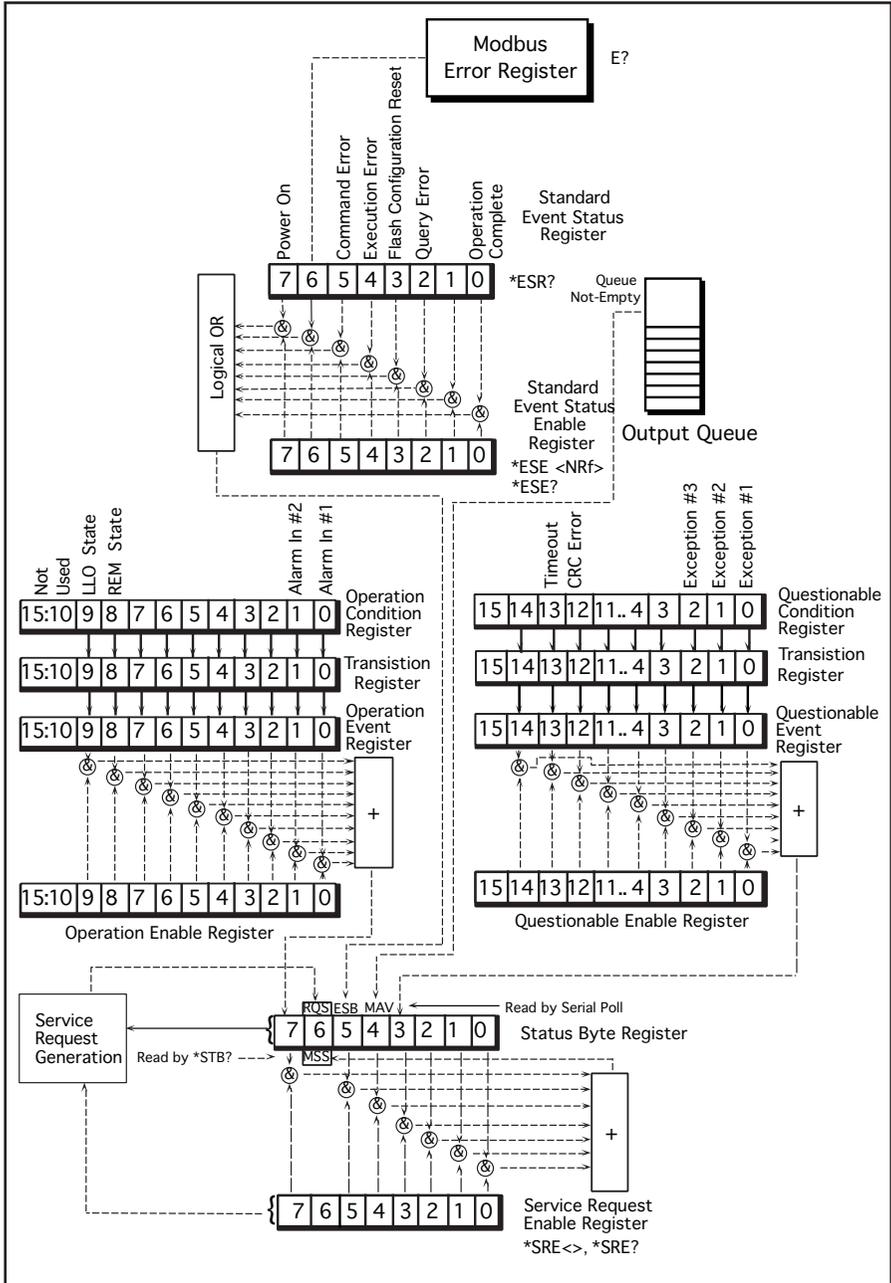

Figure 3-1 Status Reporting Structure
The 9099 has multiple copies of the expanded IEEE-488.2 status reporting structure shown in Figure 3-1. The expanded status reporting structure conforms to the SCPI 1994.0 Specification and builds on the IEEE 488.2 Standard Status Reporting Structure by adding the Questionable and Operation registers. The Event and Status registers are controlled and queried with the IEEE-488.2 common commands. The Status Byte Register may also be read by serial polling the card. The Questionable and Operation registers are controlled and queried with SCPI commands. The Modbus Error register is read and cleared with the Modbus E? query. The register readings are the sum of the binary weights of the bits whose value is a '1'.
The Questionable Registers lets the user read bits that report Modbus CRC errors, Exception message types or a timeout (no response message received). Bit assignments are shown in Figure 3-1. The Questionable Transition Register filters the inputs and passes only the enabled state changes to the Questionable Event Register. The Questionable Event Register bits becomes true (1) when the positive transition bit is enabled and the associated condition register bit makes a 0 to 1 transition. When both transitions are selected for the same bit, the corresponding Questionable Event Register bit sets whenever the digital input changes state. The Questionable Event Register is cleared when it is read or by the *CLS command. The Questionable Registers are queried with the SCPI STATUS branch commands.